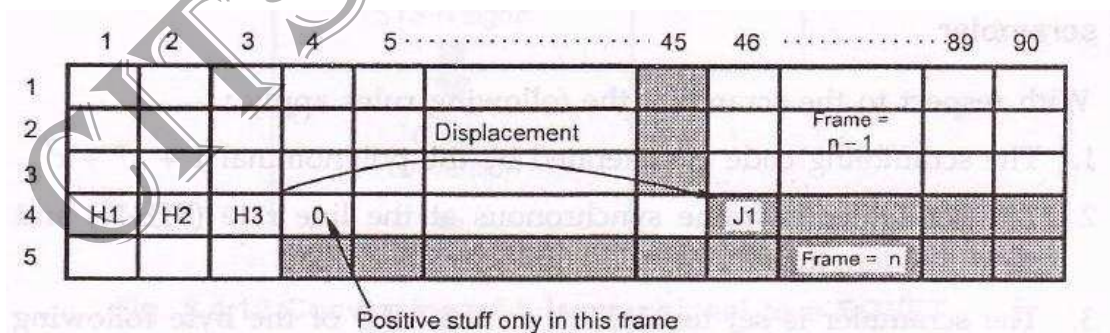

**Fig. 8.4.16 STS-1 No frequency justification**
- x When the frame rate of the STE SPE is less than the transport overhead (OH), the alignment of the SPE is skipped back by a byte. This is known as **positive justification**.
- x Fig. 8.4.16 shows no frequency justification.
- x **Example :** Consider that the H1, H2 and H3 bytes are as in Fig. 8.4.16. In this case, the H1 and H2 contain a NDF value of 0110, indicating that no change in the pointer has occurred.